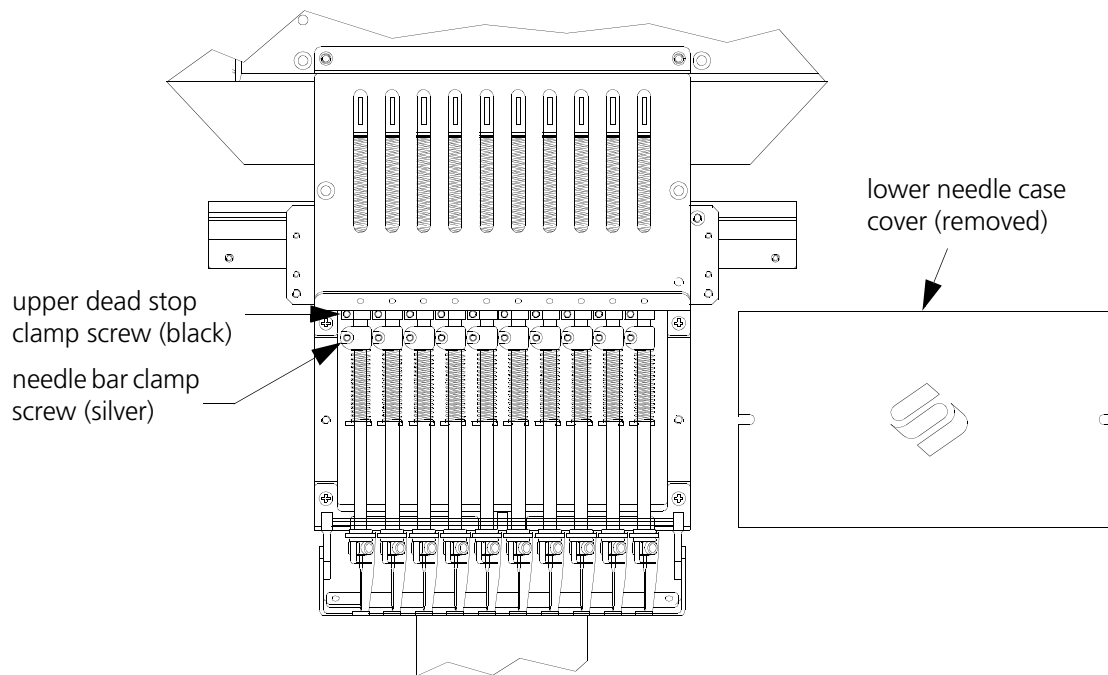

Figure 3-18
19. Loosen the needle bar clamp screw (silver clamp) shown in Figure 3-18.
4. Refer to Figure 3-18 and remove the four socket head cap screws designated "A" which attach the needle case to the tensioner brackets.